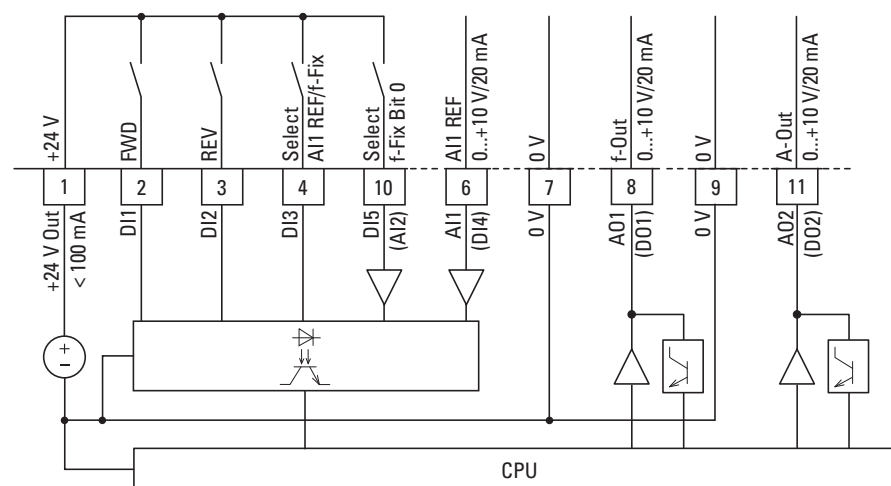

Figure 84: Control signal terminals (digital / analog)
Depending on how parameters P1-12 and P1-13 are set, control signal terminals 6 (AI1) and 10 (AI2) can be connected to analog signals (→ figure 84):
Analog signals are available at control signal terminals 8 and 11 (→ figure 84). These outputs can handle a maximum load of 20 mA. The output signals can be selected using parameters P2-11 (AO1) and P2-13 (AO2). Parameters P2-12 (AO1) and P2-14 (AO2) are used to configure the formats for the analog inputs:
Control signal terminals 8 and 11 (→ figure 84) are configured as analog outputs (AO) by default. Parameters P2-11 and P2-13 can be used to configure them as digital outputs (DO) instead.